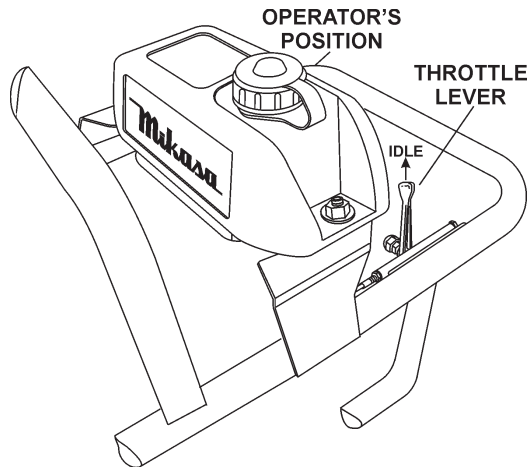

Figure 13. Throttle Lever (Idle)
1. Move throttle lever quickly from the **FULL OPEN** to **IDLE** position (Figure 13) and run the engine for three minutes at low speed.